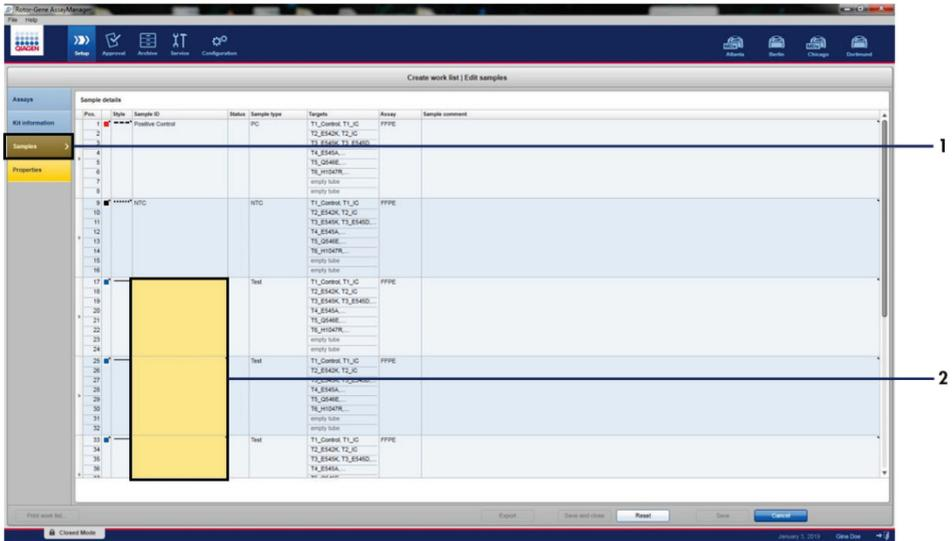

Figure 10. Create work list main window. 1= "Samples" tab, 2 = Entering sample names.
18. Click the Samples tab to enter the sample information. Enter the sample names manually (Figure 10).